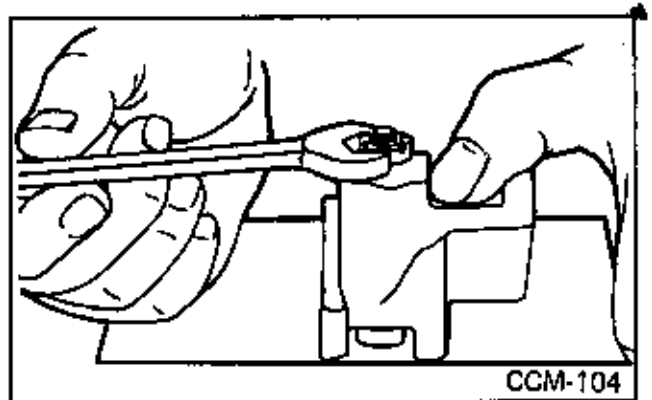

Fig. 99
5. Remove shift shaft's two (2) seals.
6. Disassemble, assemble, and adjust reverse latch plunger. Plunger should be flush with lug. Use adjusting screw. (Fig. 99)